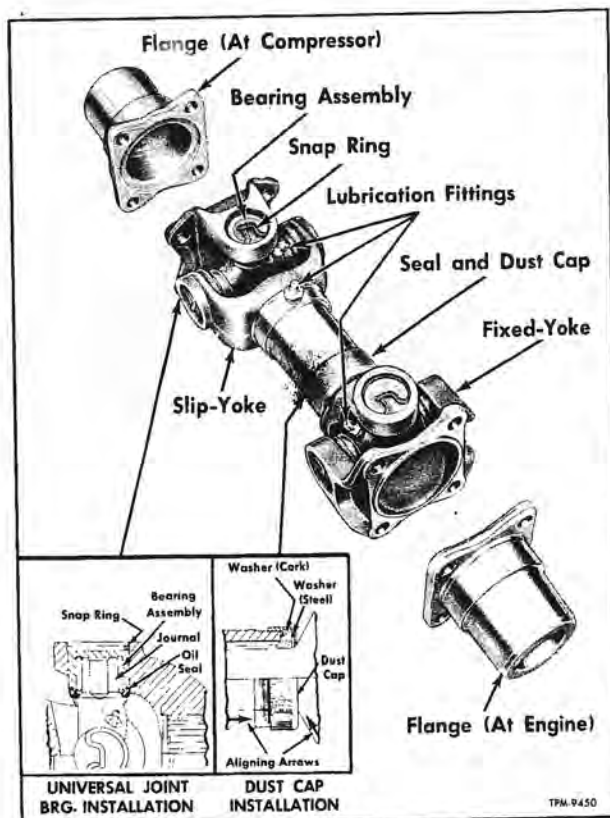

Figure 98—Compressor Drive Shaft Assembly
### DRIVE SHAFT REMOVAL (Refer to Fig. 98)
### DRIVE SHAFT INSTALLATION (Refer to Fig. 98)
### UNIVERSAL JOINT BEARING REPLACEMENT (Refer to Fig. 98)
3. To install, refer to inset on figure 98 for relative position of parts, then place steel washer and dust washer (seal) in cap. Place cap over splines on fixed-yoke.
8. Install compressor drive shaft assembly. **IMPORTANT:** Make sure the slip yoke end of shaft assembly is positioned toward the compressor (see fig. 98). **NOTE:** If necessary to rotate engine flange